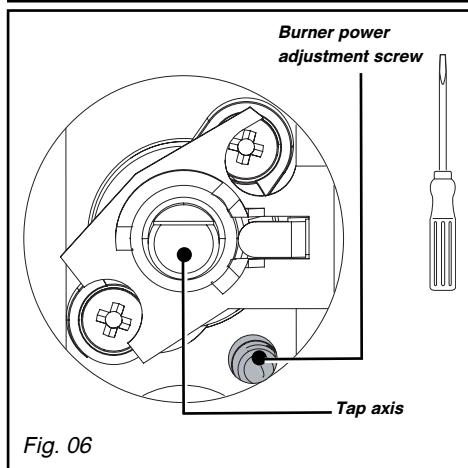

Fig. 06
- Unscrew the brass (yellow) burner power screws (Fig. 06), using a small flat-head screwdriver, **turn twice counter-clockwise**.